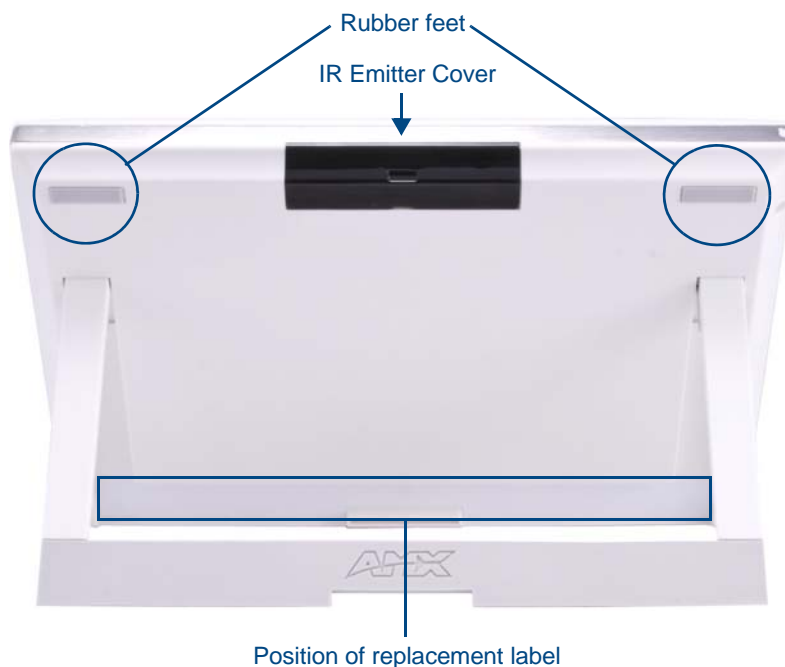

FIG. 117 Rear of the MVP-9000i-WH
4. Insert the seven screws and replace the rubber feet atop the two upper screws, using the replacement rubber feet included in the Battery Pack Kit. Replace the bottom label over the three bottom screws, using the replacement label included in the Battery Pack Kit (FIG. 117).